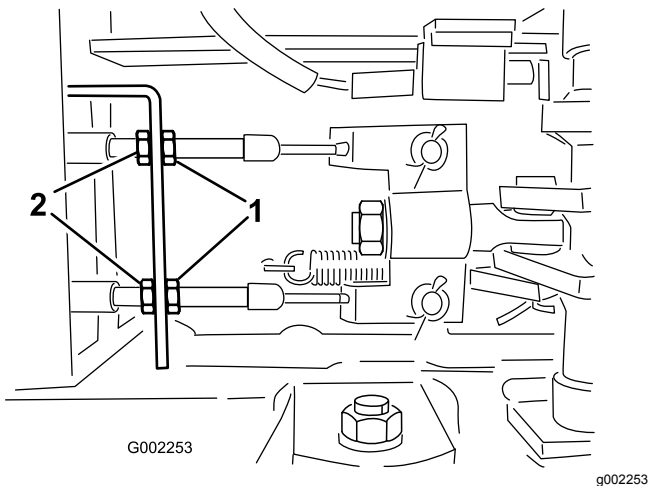

Figure 68
5. Loosen the front nuts on the brake cables under the front end of the sprayer (Figure 68).
6. Tighten the rear nuts equally until the brake pedal moves between 1 to 2 cm (1/2 to 1 inch) before you feel resistance (Figure 68).